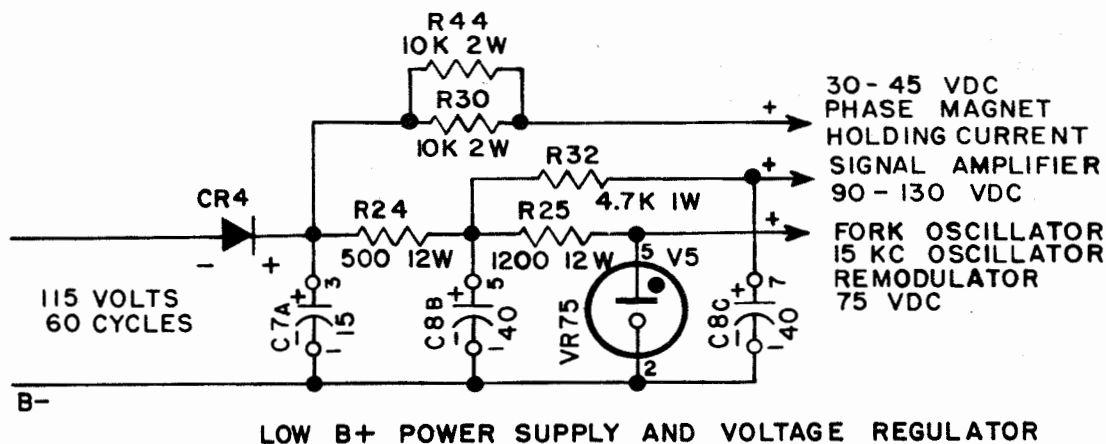

Figure 2-11. Schematic Diagram of Low Voltage Power Supply
(3) LOW VOLTAGE POWER SUPPLY.—(See *schematic, figure 2-11.*) A conventional low-voltage B+ power supply and voltage regulator is used to provide regulated +75 volts to the fork oscillator, the 15 kc oscillator, and the modulator tubes; unregulated 90 to 130 volts to the signal amplifier; and 30 to 45 volts to provide phasing actuator holding current.